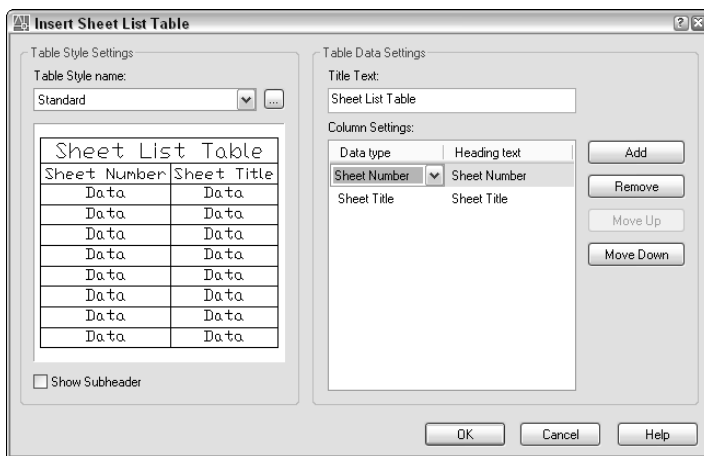

**Figure 26-24:** Use the Insert Sheet List Table dialog box to create a table that lists all of the sheets in your sheet set.
3. Right-click the sheet-set name and choose Insert Sheet Set Table to open the Insert Sheet List Table dialog box, shown in Figure 26-24.